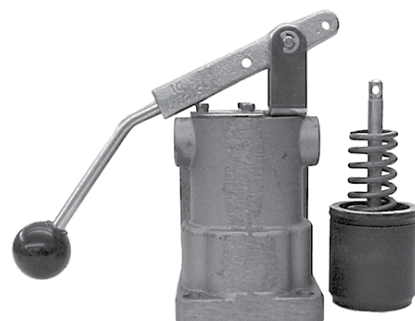

Figure 17e: Piston Assembly Removed
7. Slowly release the valve until the compression spring exerts no pressure. As the valve housing is lifted, the piston assembly and compression spring should easily slide out of the housing (Figure 17e). The piston and seals may now be inspected, cleaned and replaced as needed.